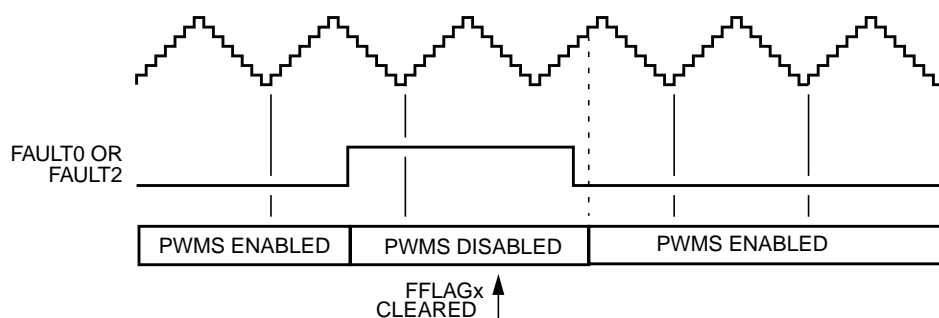
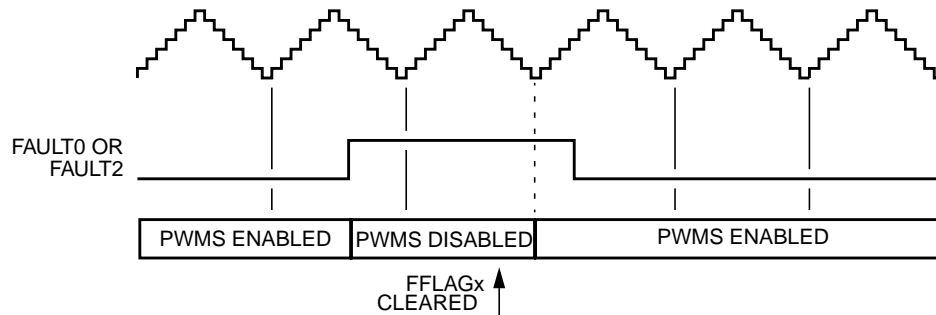

Figure 11-77. Manual Fault Clearing (Faults 0 & 2) — QSMP = 00
Figure 11-78. Manual Fault Clearing (Faults 0 & 2) - QSMP=01, 10, or 11
- PWM pins disabled by the FAULT0 pin or the FAULT2 pin are enabled by clearing the corresponding FFLAGx flag. The time at which the PWM pins are enabled depends on the corresponding QSMPx bit setting. If QSMPx = 00, the PWM pins are enabled on the next IP bus cycle when the logic level detected by the filter at the fault pin is logic zero. If QSMPx = 01, 10 or 11, the PWMs are enabled when the next PWM half cycle begins regardless of the state of the logic level detected by the filter at the fault. See Figure 11-77 and Figure 11-78.